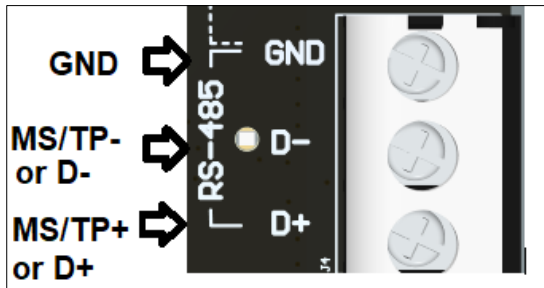

Figure 4. RS-485/BACnet connections
11. RS-485/BACnet serial connections: Connect the Control Thermostat screw terminal D+ to MS/TP+ on the BACnet thermostat, D- to MS/TP- and GND to GND ;or connect to D+ to D+, D- to D- and GND to GND on any other RS-485 serially controlled devices. See Figure 4.
13. **Contact Synapse for Support-** (877) 982-7888